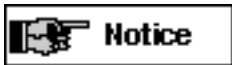

*Fig. 3*
5. Check visually and physically that the round was ejected and that no other round is chambered (Fig. 3).
3. Check visually and physically that no round is chambered (Fig. 3).
4. Check that no round is chambered (see Fig. 3, page 12).